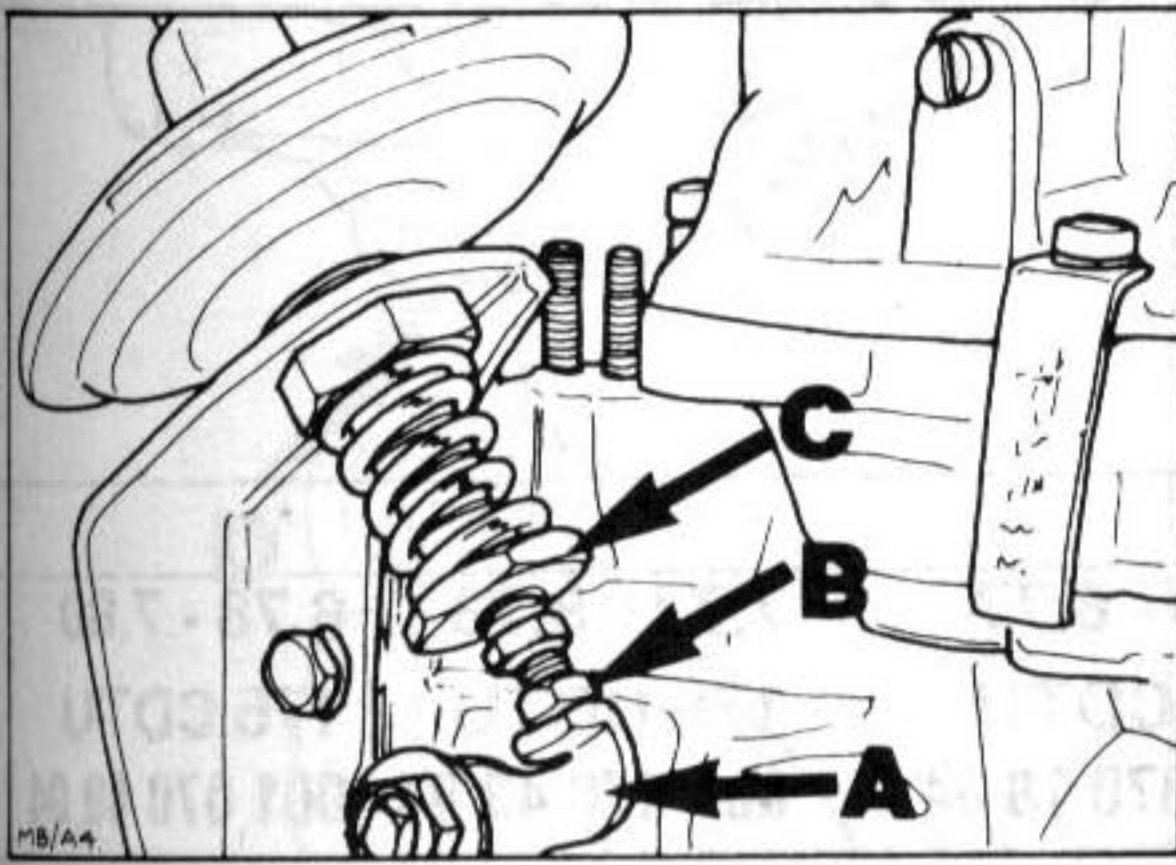

Fig. 4 Throttle damper adjustment
- d) If necessary, adjust to within these limits by turning adjusting screw (B) at end of diaphragm rod (Fig. 4).
- f) Check that a clearance of approximately 0,5 mm exists between head of adjusting screw (B) and actuating lever (A) on throttle shaft.
- g) If necessary, adjust clearance by means of large adjusting nut (C) at lower end of compression spring.
- k) If necessary, adjust idle speed by means of large adjusting nut (C) at compression spring, and emission value by means of idle speed shut off valve, as detailed previously (Fig. 4).